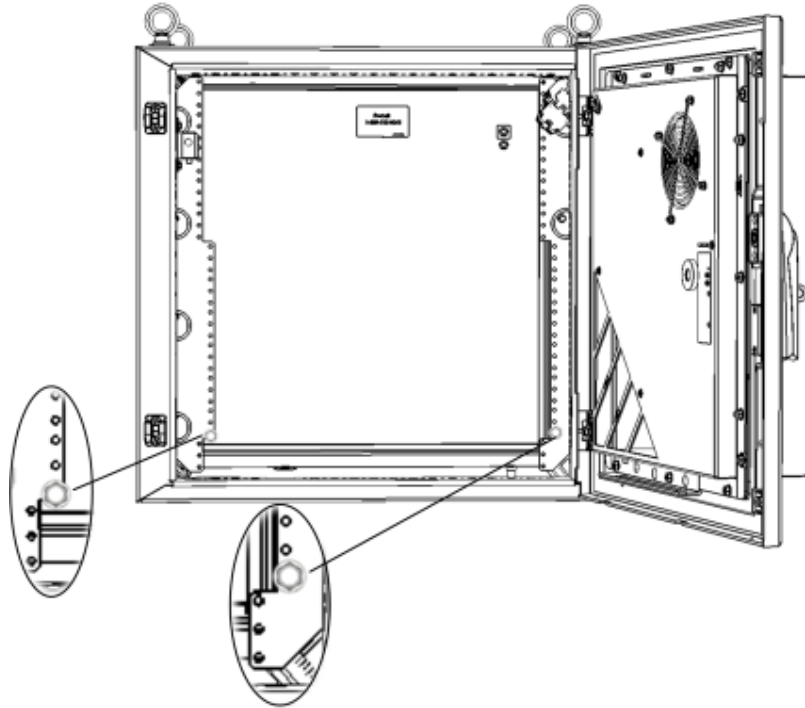

Figure 4-8. Inserting Self-Tapping Screw in each Rail
2. Insert one 8 mm self-tapping screw (provided with the cabinet) half way into the bottom hole of each rail. Refer to Figure 4-8.